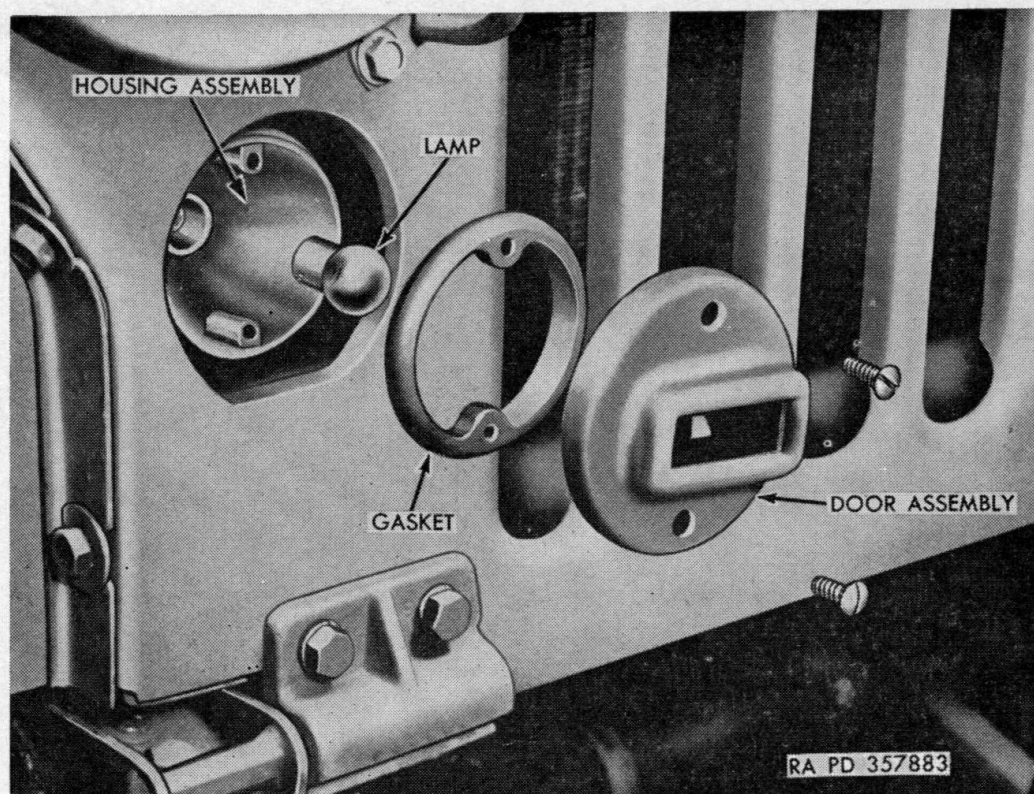

Figure 60. Black-out marker lamp replacement.
- (4) *Black-out marker light*. Black-out marker lights (fig. 60) are waterproofed and mounted on the radiator guard directly below the headlights. These lights are controlled by a light switch (par. 22).
(Fig. 60)